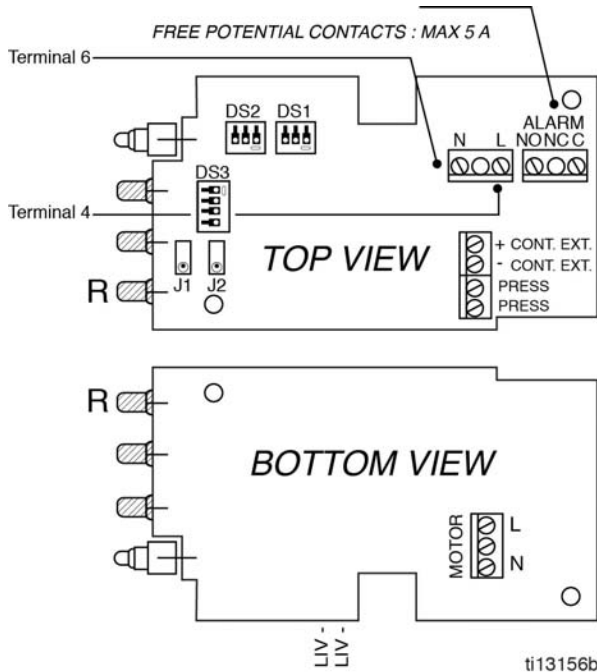
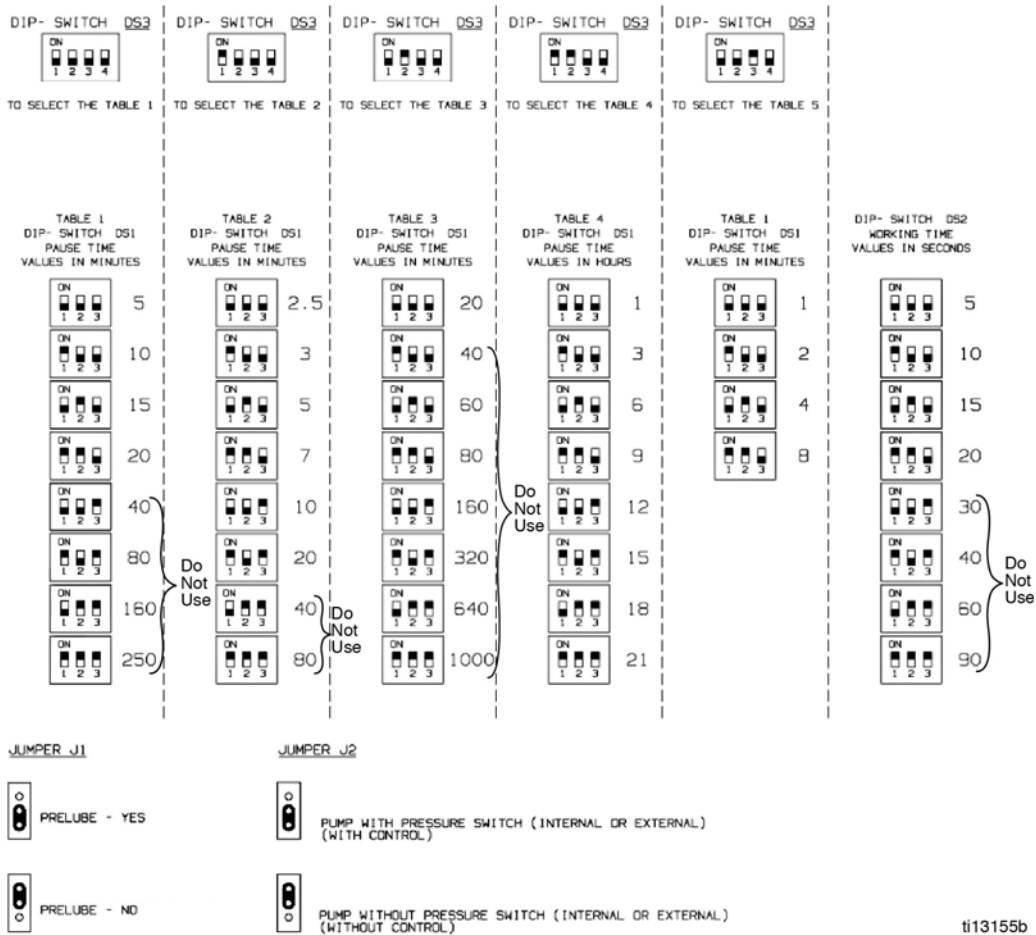

FIG. 2
FIG. 3
- Connect input power leads to the input terminal block (Terminals 4 and 6) (FIG. 2).
Pause (off) Time (FIG. 2 and FIG. 3)
Work (on) Time (FIG. 2 and FIG. 3)
Prelube (FIG. 2 and FIG. 3)
Pressure Switch (FIG. 2 and FIG. 3)
Pause (off) Time (FIG. 3)
Monitor Time (FIG. 3)
Cycle Switch (FIG. 3)
Pressure Switch (FIG. 3)